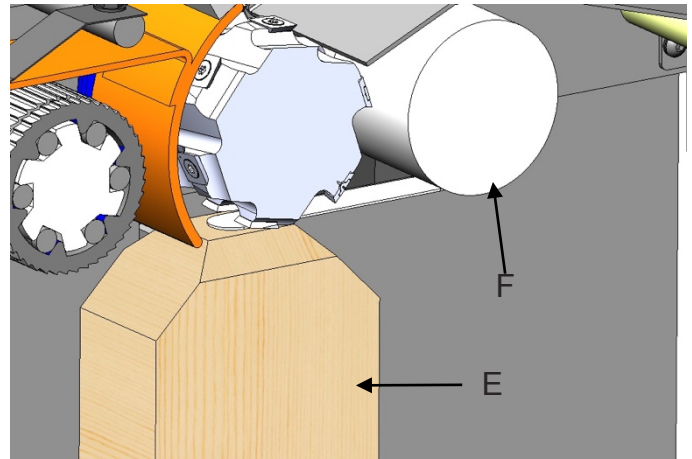
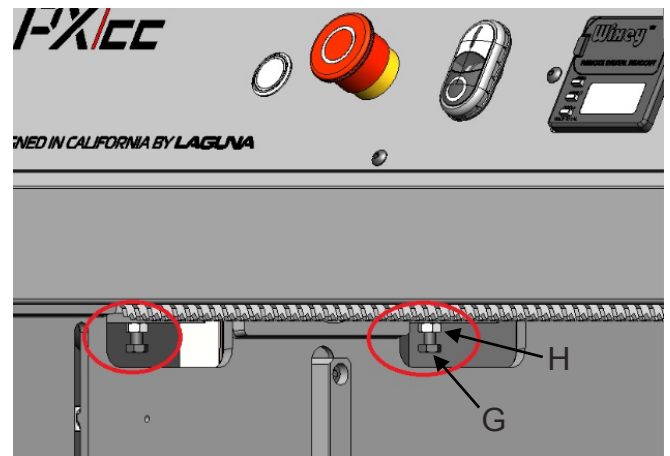

Figure 20: Out-Feed Roller Adjustment
Figure 21: Roller Adjustment
3. Remove feeler gauge and place wood block (Fig.20, E) under the left side of outfeed roller (Fig. 20, F). The top of wood gauge should just contact the outfeed roller. If it doesn't, loosen jam nut (Fig. 21, H) and turn the adjusting screw (Fig. 21, G) to raise, or lower the out-feed roller until it contacts wood gauge.